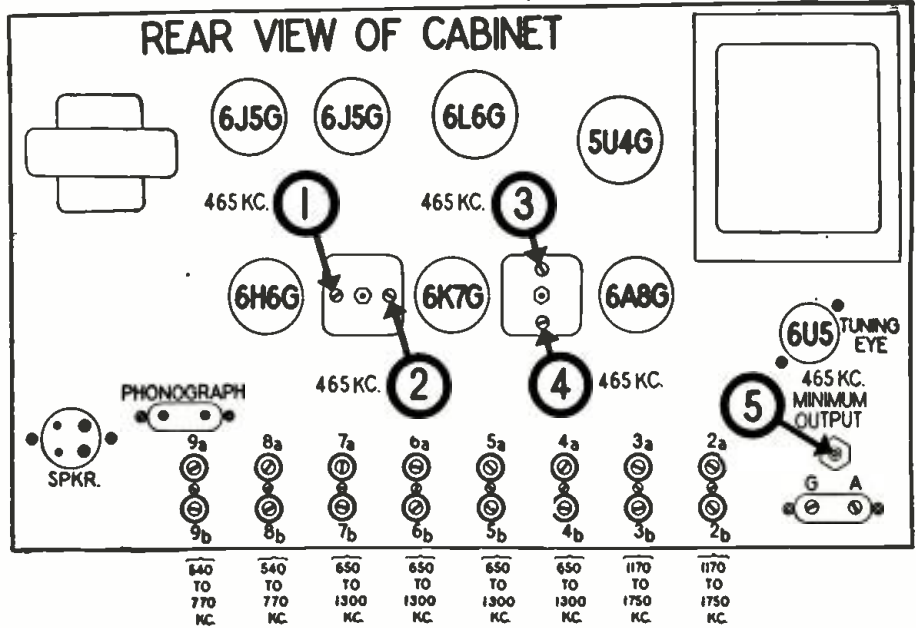

Fig. 2. Locations of tubes and alignment trimmers.
The tuning eye is located at the rear of the chassis (as shown in Fig. 2) and should be used when setting up the pushbuttons to the various stations. Its purpose is to indicate visually the exact point at which the receiver is correctly tuned to a station. Any station is correctly tuned-in when the two open ends of the "V" shadow in the tuning eye are closest together. On strong signals the ends will come together—on weaker stations, they will be more separated. REGARDLESS OF WHETHER YOU ARE TUNING-IN A STRONG OR A WEAK STATION, THE TRIMMER SCREWS SHOULD ALWAYS BE ADJUSTED TO THE POINT WHERE THE ENDS OF THE "V" IN THE EYE ARE CLOSEST TOGETHER.
5. Place the receiver in such a position that the back of the cabinet is readily accessible. Refer to Fig. 2 (showing the back of the cabinet). In the figure, the 8 pairs of trimmer adjusting screws are numbered to correspond to the pushbuttons. These screws are used to tune the receiver to the station selected for each button.
The connections to the receiver from a high-impedance pickup unit are made to the terminal strip on the back of the chassis (see Fig. 2, for this terminal strip labelled "PHONOGRAPH"). The 2 leads from the phonograph pickup unit are connected to the